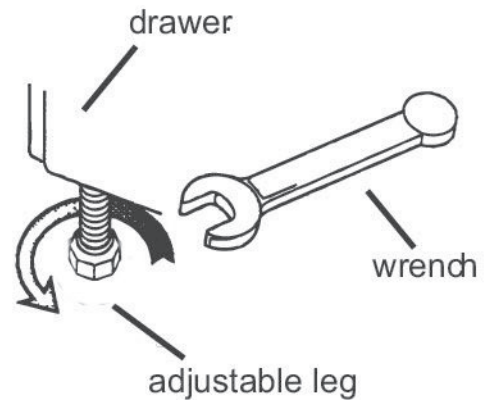

Figure 6: Adjusting range height
10. Slide the range back into position. If necessary, to avoid scratching the countertop, adjust the height of the range by adjusting the range feet (see Figure 6: Adjusting range height). Be sure to engage the anti-tip bracket. See the *Tip Over Hazard Warning* earlier in this instruction and also in the *Slide-In Range Installation Manual*.